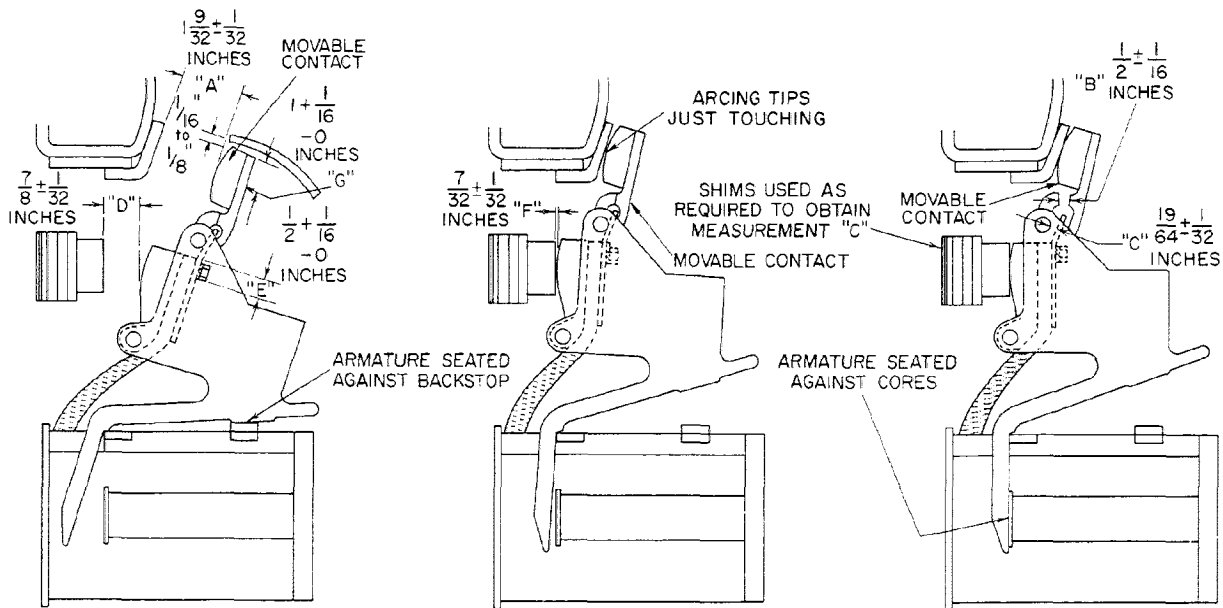

Fig. 6. Contact adjustments.
5. Operate the armature and measure the wipe of the main contacts. (See Fig. 6 - measurement C). The term "wipe" as used here may be more familiar as "allowance for erosion of tip material." Accurate measurements cannot be made by operating the armature manually. The coils should be energized to check adjustments.
Manually operate the armature until the arcing tips just touch, then a gap of at least 3/16-inch must exist between the main tips. (See Fig. 6 - measurement F). Vary wipe C within its limits to maintain this dimension.
With these dimensions held, a minimum allowable main tip gap of 3/4-inch must be maintained. (See Fig. 6 - measurement D).
Install new contacts and reassemble the springs, adjusting screws, and arcing horn. Place the adjusting screws at their original height setting and tighten the setscrews. Check that the wipe and gap dimensions are in accordance with Table II and see that the stationary-contact tips meet the requirements shown in Fig. 6. When the contactor is de-energized, the arcing horn for the arcing tip must be adjusted so that the gap between the movable tip and the horn is 1/16 to 1/8 inch as shown in Fig. 6. Put the arc chute in place. *
To check the pressure on the arcing contacts, insert a strip of thin paper between the stop portion of the movable arcing contact and the contact support at B (Fig. 6). Attach the hook of a spring
scale to the center of the arcing contact at G (Fig. 6) and pull on the scale at right angles to the plane of contact. The pounds pull at the instant the paper can be moved is the initial contact force. If this force is outside the limits shown in Table 3, the arcing-contact spring should be replaced.
Check the initial force of the main contacts in a similar way by placing a strip of paper between the movable contact and the stop pin at C (Fig. 6) and pull at bolts E (Fig. 6). Reset the spring-adjusting screw, if necessary, to bring the initial contact force within the limits shown in Table 3.